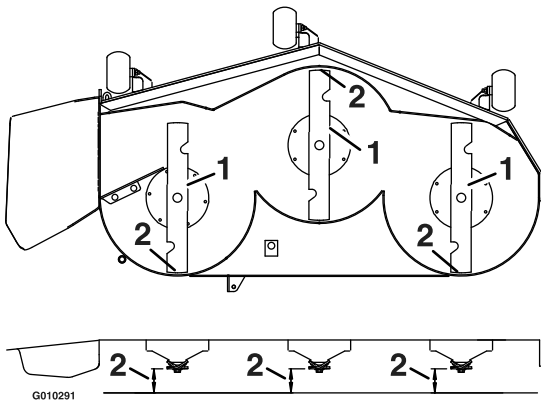
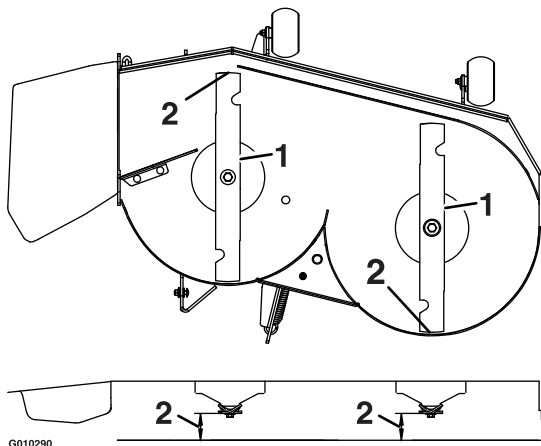

Figure 33
Figure 34
1. Rotate the blades until the ends face forward and backward (Figure 33 and Figure 34). Measure from a level surface to the cutting edge, of the blades. Note this dimension.